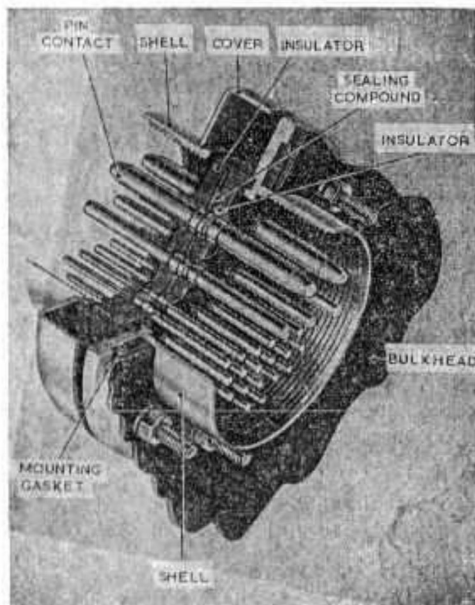

**Fig. 10. Bulkhead unit, stages of development**
19. In this version the ferrule gasket is made of asbestos fibre, thus giving the unit improved resistance to fluids and fire. These units are waterproof and vibration-proof when assembled in aluminium shells and waterproof, fireproof and vibration-proof when assembled in steel shells (para. 2(1) and 2(2)).
20. This style of unit (fig. 10) was the original design and was manufactured with aluminium, brass and steel shells. In effect, the stage 1 bulkhead unit consists of two stage 1 fixed units joined back-to-back but with a single insulator (of phenolic material) in which special double-ended pins are moulded in position. It is used to connect two free units, one a normal unit, the other a reverse unit, on either side of a bulkhead (that is, the free units are mirror images of one another but otherwise identical).
21. This version (fig. 10) differed from stage 1 in that the insulation was formed of two identical components, each having stepped creepage barriers at the perimeters of the contact holes (para. 8). The bases of the pins are sandwiched between the insulators when the flange is secured by the fixing bolts and nuts.
23. In the stage 4 version (fig. 10), the front and rear insulator discs were alkyd and the shell gasket silicone rubber. A seating and a reverse seating gasket (designed to accept the leading edges of mating socket units) replace the insulator gaskets of units in stage 3 and these are also of silicone rubber. The changes leading to this stage enabled the unit to operate between ambient temperatures of  $-65$  degrees C. and  $+150$  degrees C.